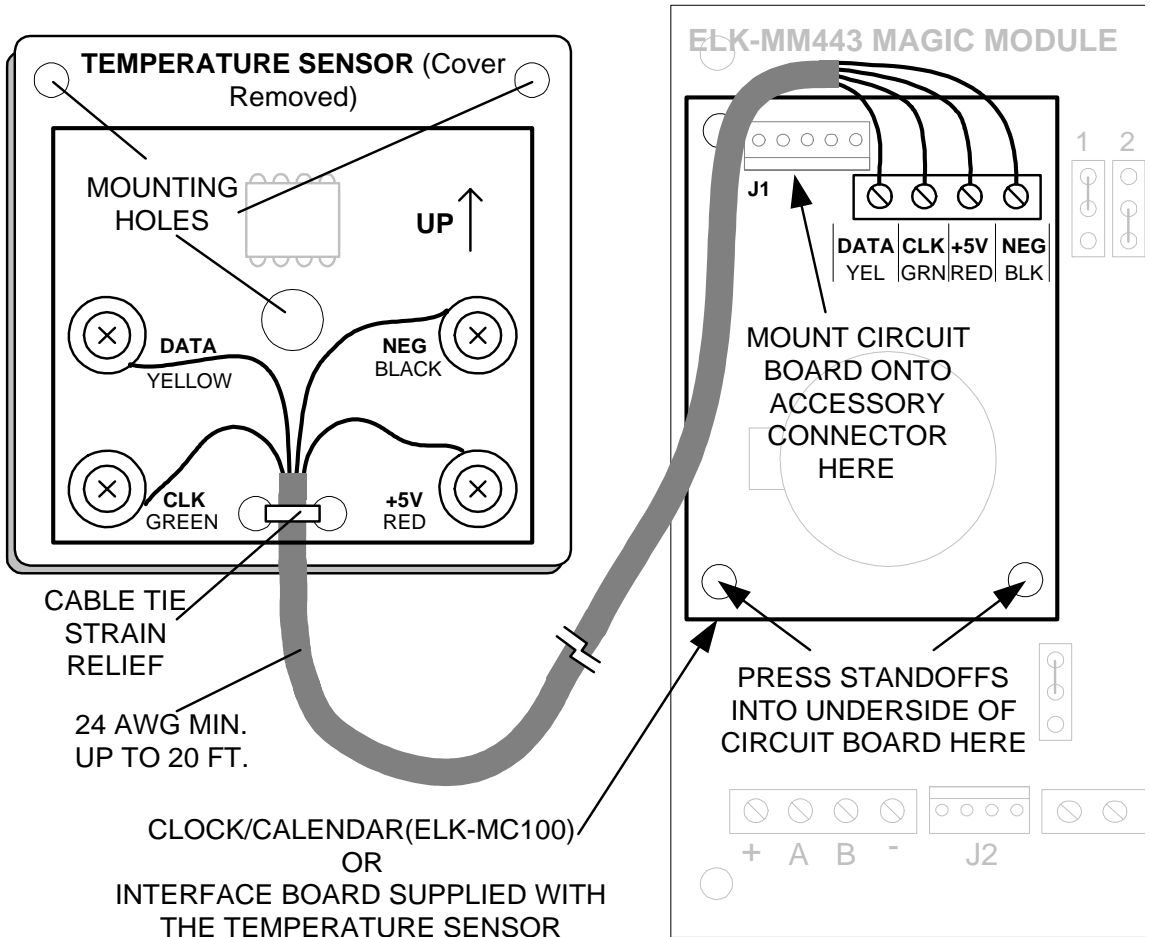

Figure 1. Temperature Sensor Hookup Connections to a Magic Module
The ELK Temperature Sensor(ELK-MT100) allows the ELK Magic Module(ELK-MM443) programmable controller to monitor ambient temperatures and control functions through programming. The Sensor can be remotely located in the area where temperature measurement is desired. The Sensor connects via a 4 conductor cable to the terminals of either an ELK Clock/Calendar Module(ELK-MC100) or the supplied Interface board. This board is plugged onto the Magic Module Accessory Connector(J1) as shown in figure1.
2. Remove the Sensor's plastic cover. Use double sided tape or screws (screws not supplied) to mount the base in a **dry** location where the temperature measurements will be taken. The preferred mounting direction is shown in figure 1. The Sensor can be located up to 20 feet from the Magic Module.